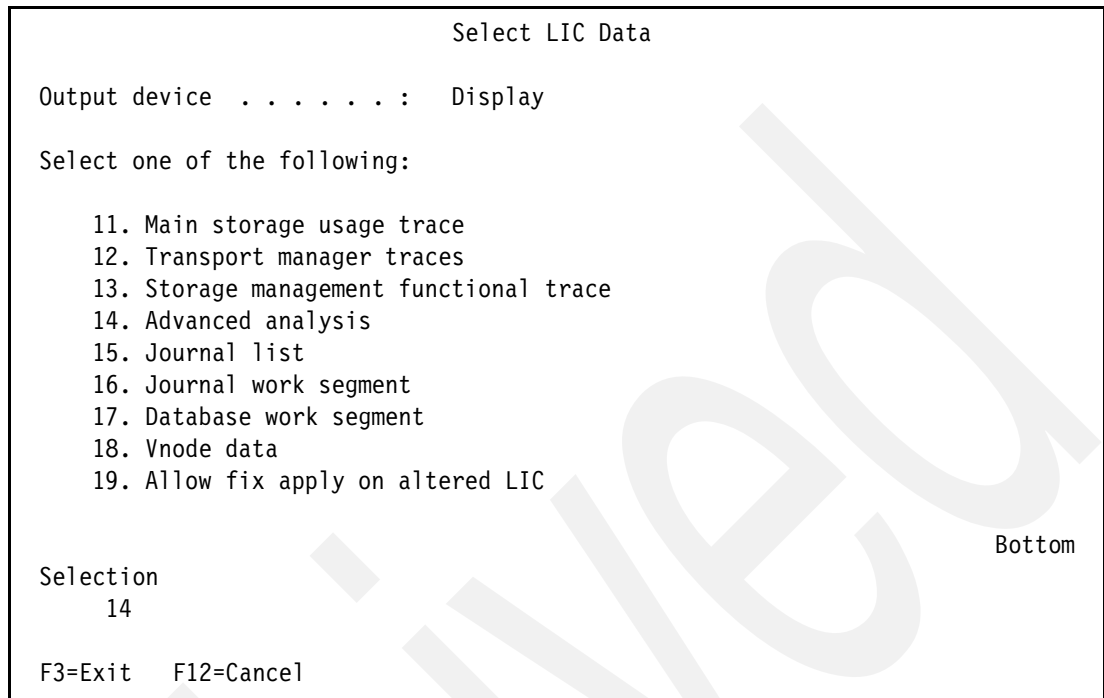

Figure 5-105 Selecting Advanced analysis
5. In the Select LIC Data panel, scroll down the page, and select **14. Advanced analysis** (as shown in Figure 5-105), and press Enter.